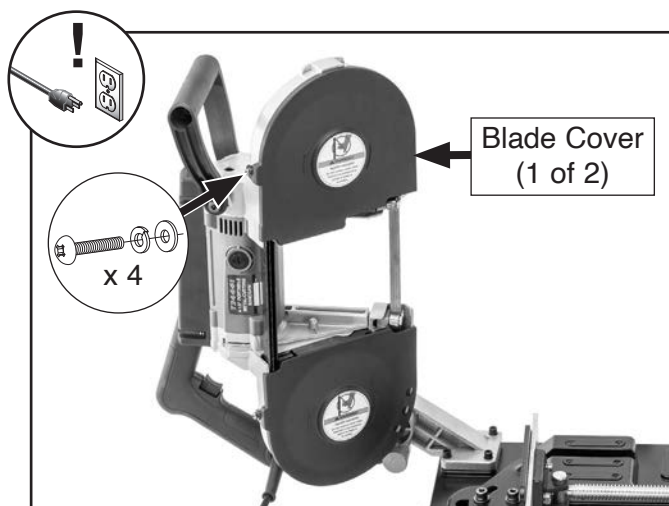

Figure 39. Location of blade covers and screws.
4. Remove (4) Phillips head screws, lock washers, and flat washers shown in **Figure 39** to remove blade covers.